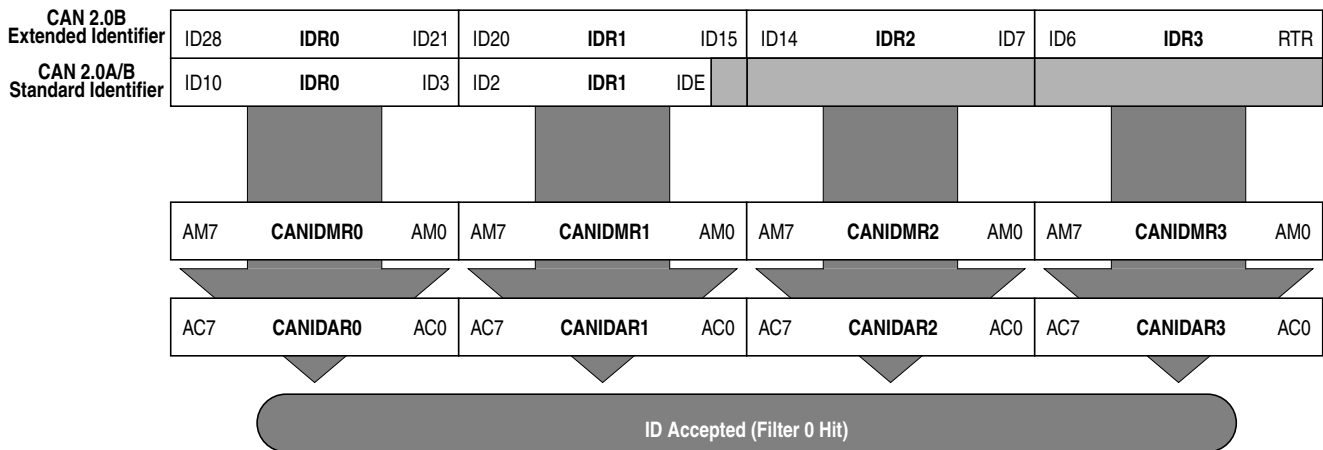

Figure 11-38. 32-bit Maskable Identifier Acceptance Filter
- The 11 bits of the standard identifier plus the RTR and IDE bits of the CAN 2.0A/B messages1. This mode implements two filters for a full length CAN 2.0B compliant extended identifier. Figure 11-38 shows how the first 32-bit filter bank (CANIDAR0–CANIDAR3, CANIDMR0–CANIDMR3) produces a filter 0 hit. Similarly, the second filter bank (CANIDAR4–CANIDAR7, CANIDMR4–CANIDMR7) produces a filter 1 hit.